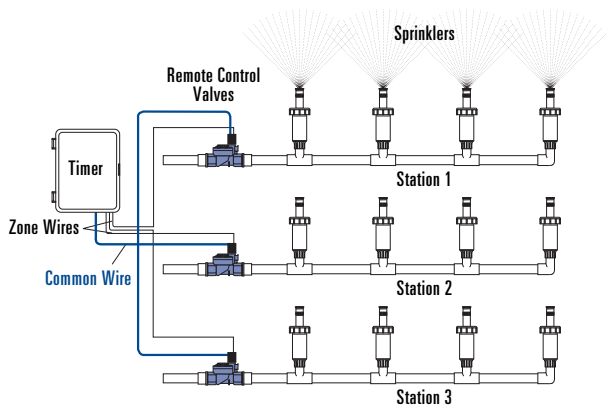

Figure 26: Connecting Sprinkler Wires to Valves
- Connect one wire from each valve (it doesn't matter which wire) to a single "Common" sprinkler wire (usually white) [See Figure 26]